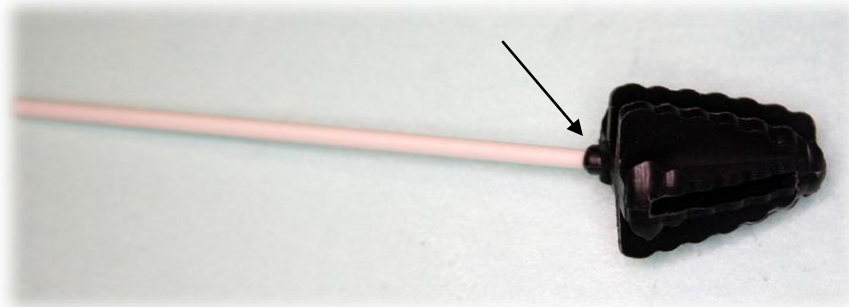

Figure 1: Tubing glued to the end of the mounting bracket
- a. To position the mounting bracket inside the fuselage temporarily glue the white tubing, included in the skeg kit, to the hole in the skeg body with CA as shown in figure 1.